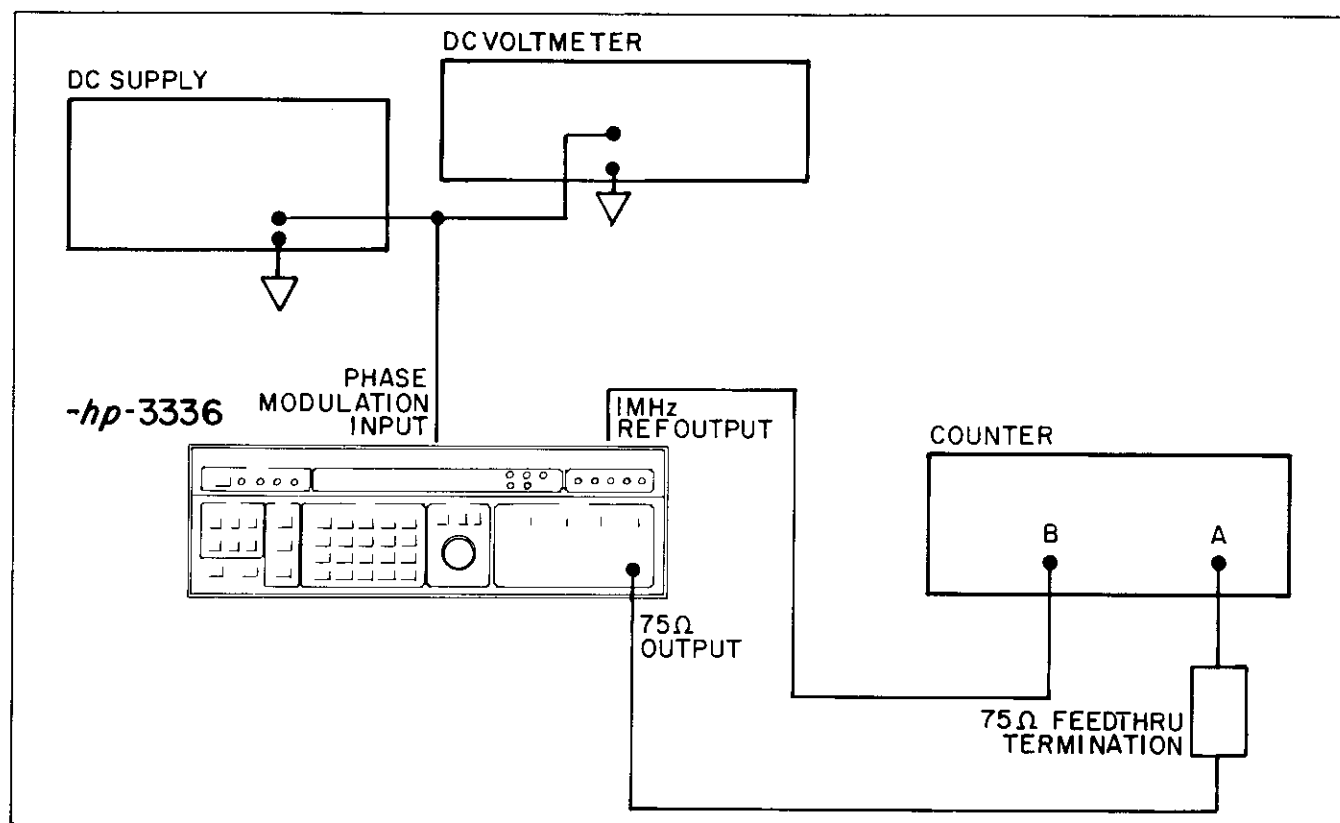

Figure 4-12. Phase Modulation Linearity Equipment Set Up.
a. Connect the equipment as shown in Figure 4-12.